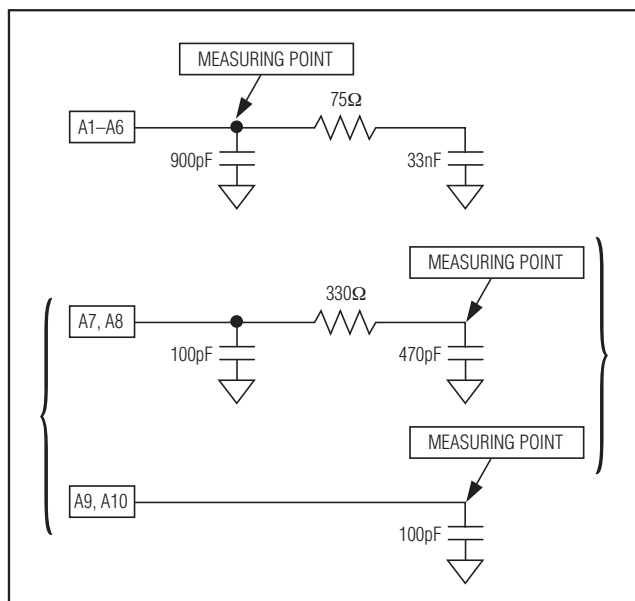

Figure 2. Load Models for Different Channels
**Note 1:** The load models for different channels are illustrated in Figure 2.
Figure 2 shows the load models for different channels.